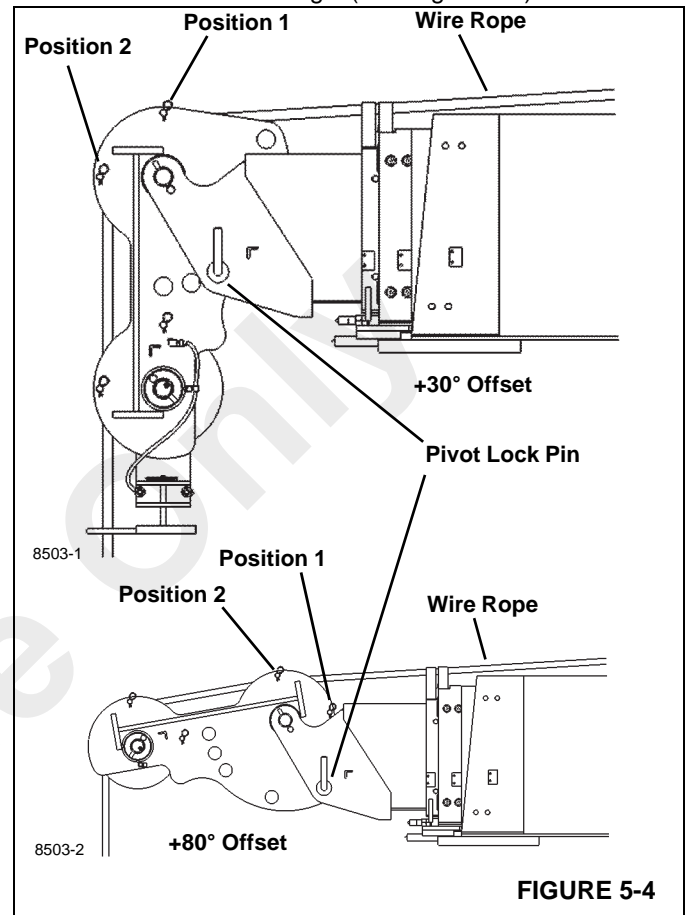

FIGURE 5-4
7. When offsetting boom head (Figure 5-4) to +30° move rope retention pin from position 1 to position 2 and run rope between pin and sheave wheel.
8. When offsetting boom head (Figure 5-4) to +80° move rope retention pin from position 1 to position 2 and run rope above pin and sheave wheel.
9. After installing the rope retention pin and retaining clip into the boom head (Figure 5-4). Check that the wire rope is not contacting retention pin at the top of the boom head.
8. Install the rope retention pin and retaining clip into the top of the boom head (Figure 5-4). Check that the wire rope is not contacting retention pin at the top of the boom head.
9. When offsetting boom head (Figure 5-4) to +30° move rope retention pin from position 1 to position 2 and run rope between pin and sheave wheel. Check that the wire rope is not contacting retention pin at the top of the boom head.